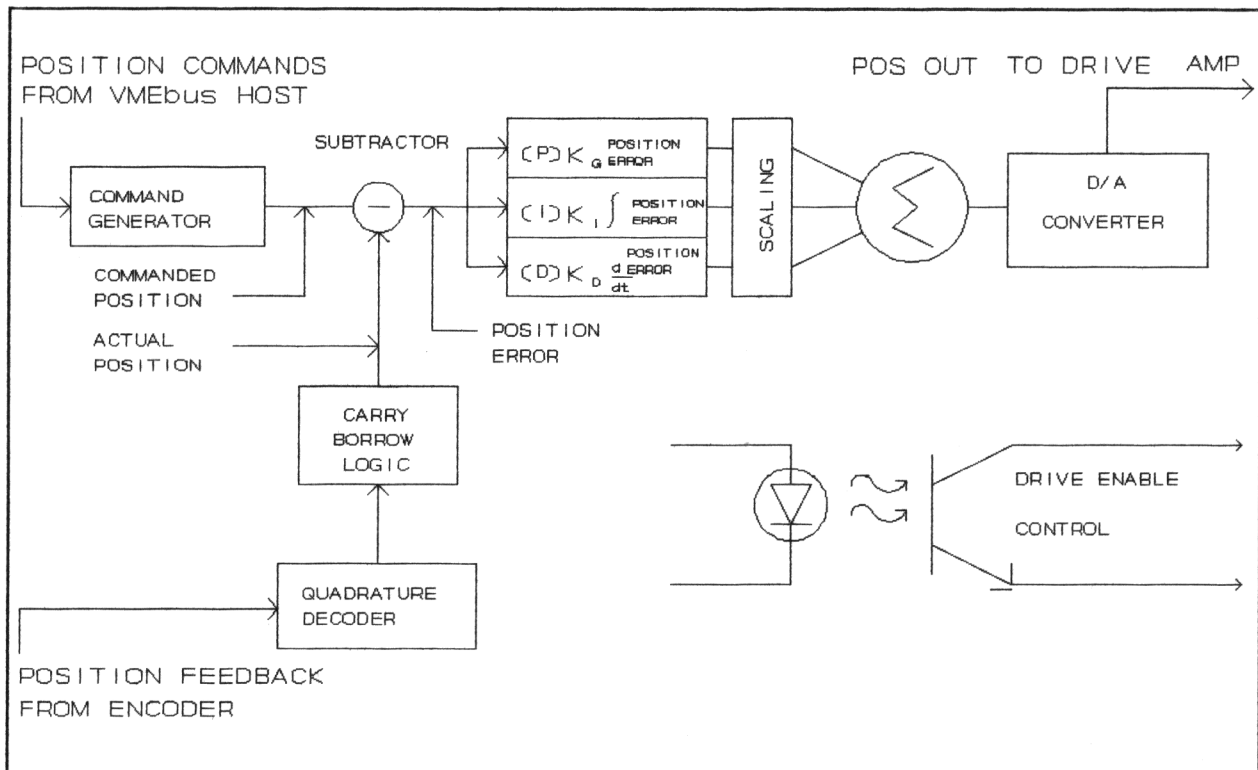

Figure 2-2 PID Block Diagram
The VMEbus host can override the default gain (P) term of 16, integral (I) term of 0, and differential (D) term of 0. These terms can be adjusted to customize system response, stability, and stiffness to perform in particular applications. Figure 2-2 illustrates the integration of PID into the VME-1000 Single Axis Controller.
The VME-1000 Single Axis Controller has built-in fault detection. While the DRIVE ENABLE indicator is lighted, the controller monitors the Position error (see Figure 2-2), immediately sets the signal to 0.00V dc and turns off the drive enable control under the following conditions: